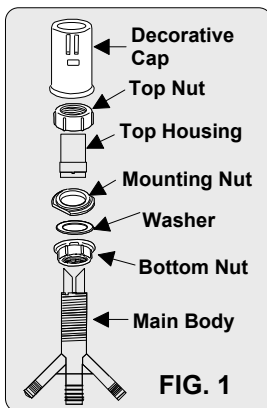

FIG. 1
2. Unscrew the top nut from the AG200-005 body. Next, unscrew and remove the mounting nut and the washer. Turn the bottom nut further down the air gap's body. Leave sufficient length for the thread to protrude up through the mounting hole. (See Fig.1)